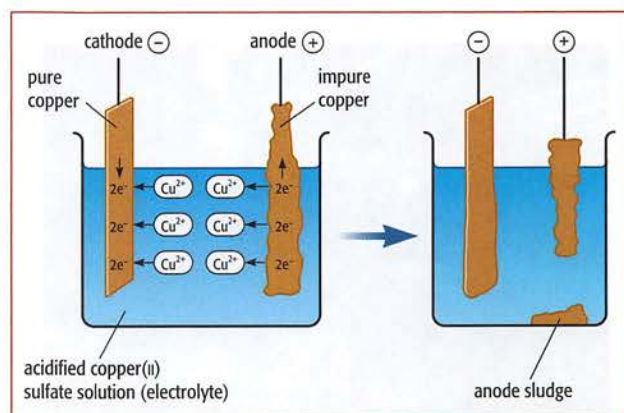

Figure 4.28 The purification of copper by electrolysis. The movement of ions effectively transfers copper from one electrode to another.
A cell can be set up to electrolyse copper(II) sulfate solution using **copper** electrodes (not graphite). As electrolysis takes place, the cathode gains mass as copper is deposited on it (Figure 4.28):